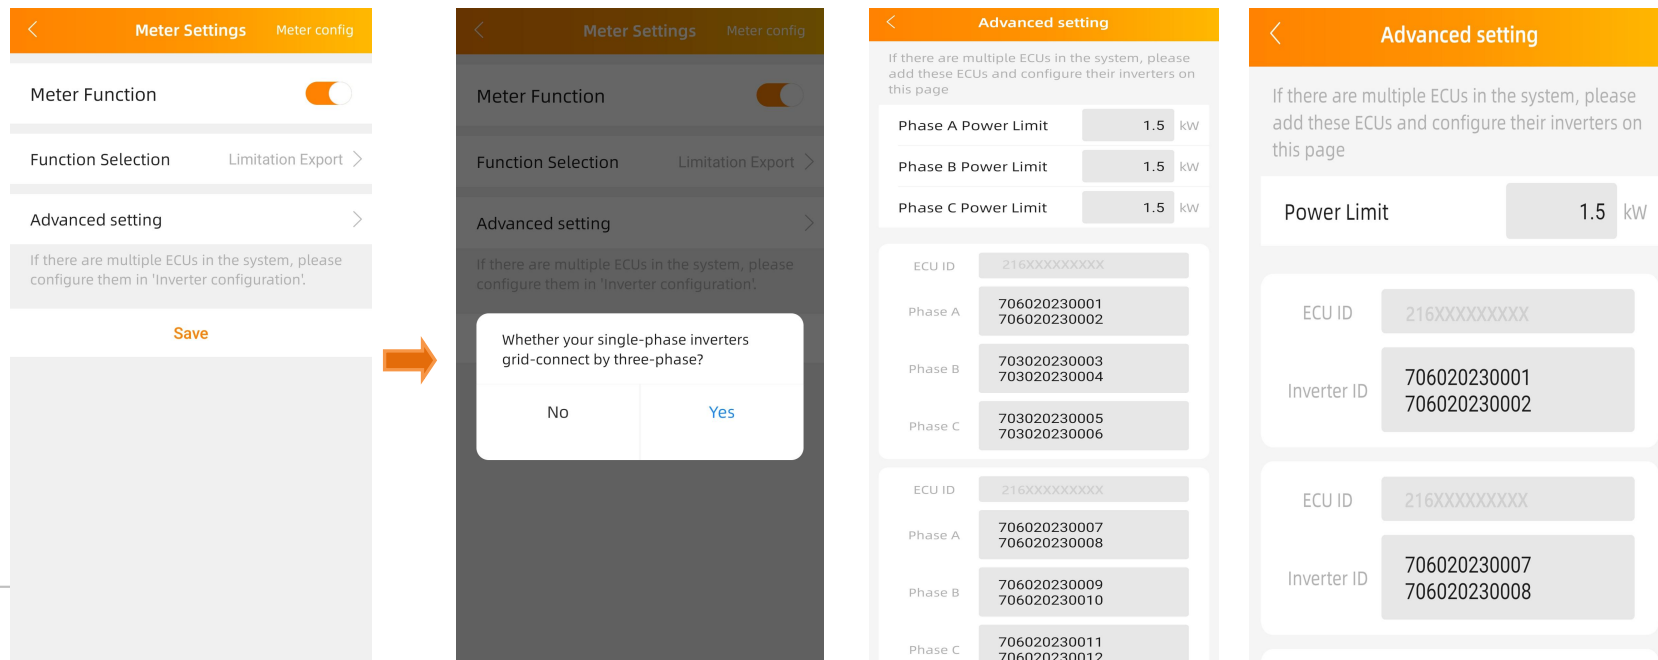

Figure 1
1. Figure 1 (tap "Yes"): Apply to single-phase inverters grid-connect by three-phase.